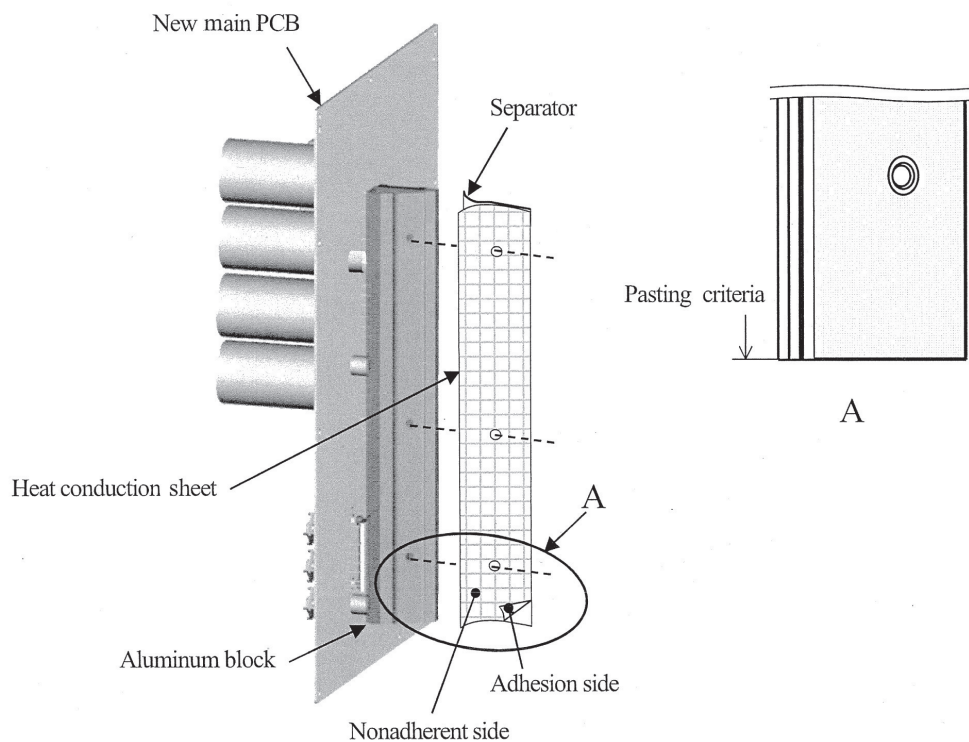

Fig.5 Detail of paste for the heat conduction sheet
- Turn over the separator of new heat conduction sheet and paste the heat conduction sheet on the aluminum block. (Refer to Fig.5)